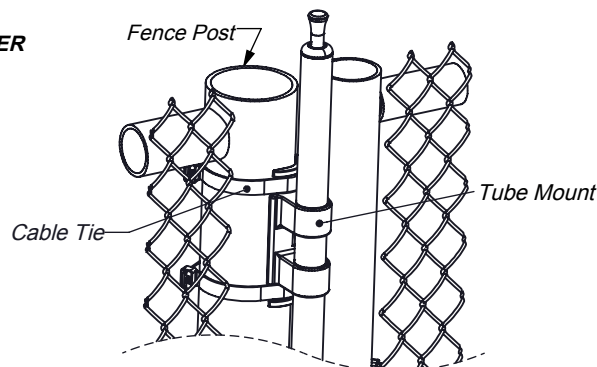
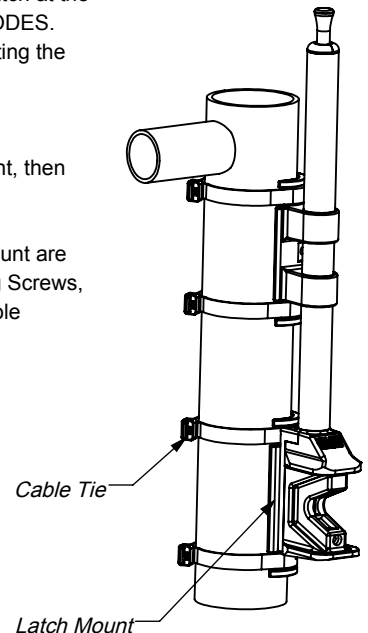

FIG. 3
FIG. 4
Step 3: Install the Tube Mount using (2) Cable Ties (DO NOT fully tighten Cable Ties to allow adjustment if needed) Mount as near to the top of the Fence Post as possible (Fig. 3). DO NOT use Mounting Screws yet.
Step 4: Attach the Latch Mount by holding it against the post and securing it with (2) Cable Ties (DO NOT fully tighten Cable Ties to allow adjustment). DO NOT use Mounting Screws yet.
Step 5: Mount the Latch Assembly by sliding it into the Tube Mount and onto the the Latch Mount (Fig. 4)
Step 9: Reinstall the Latch Assembly by sliding it into the Tube Mount and onto the Latch Mount (Fig. 4)